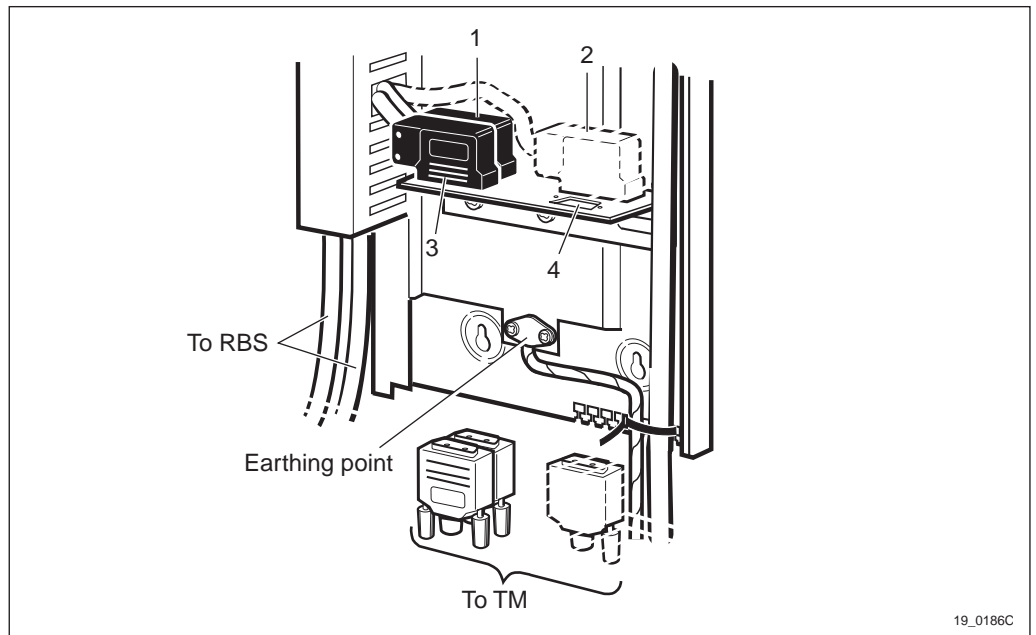

Figure 5 Mounting PCM and +24/-48V DC cables in the DF
1. Mount the connectors according to figure 5 and table 2: